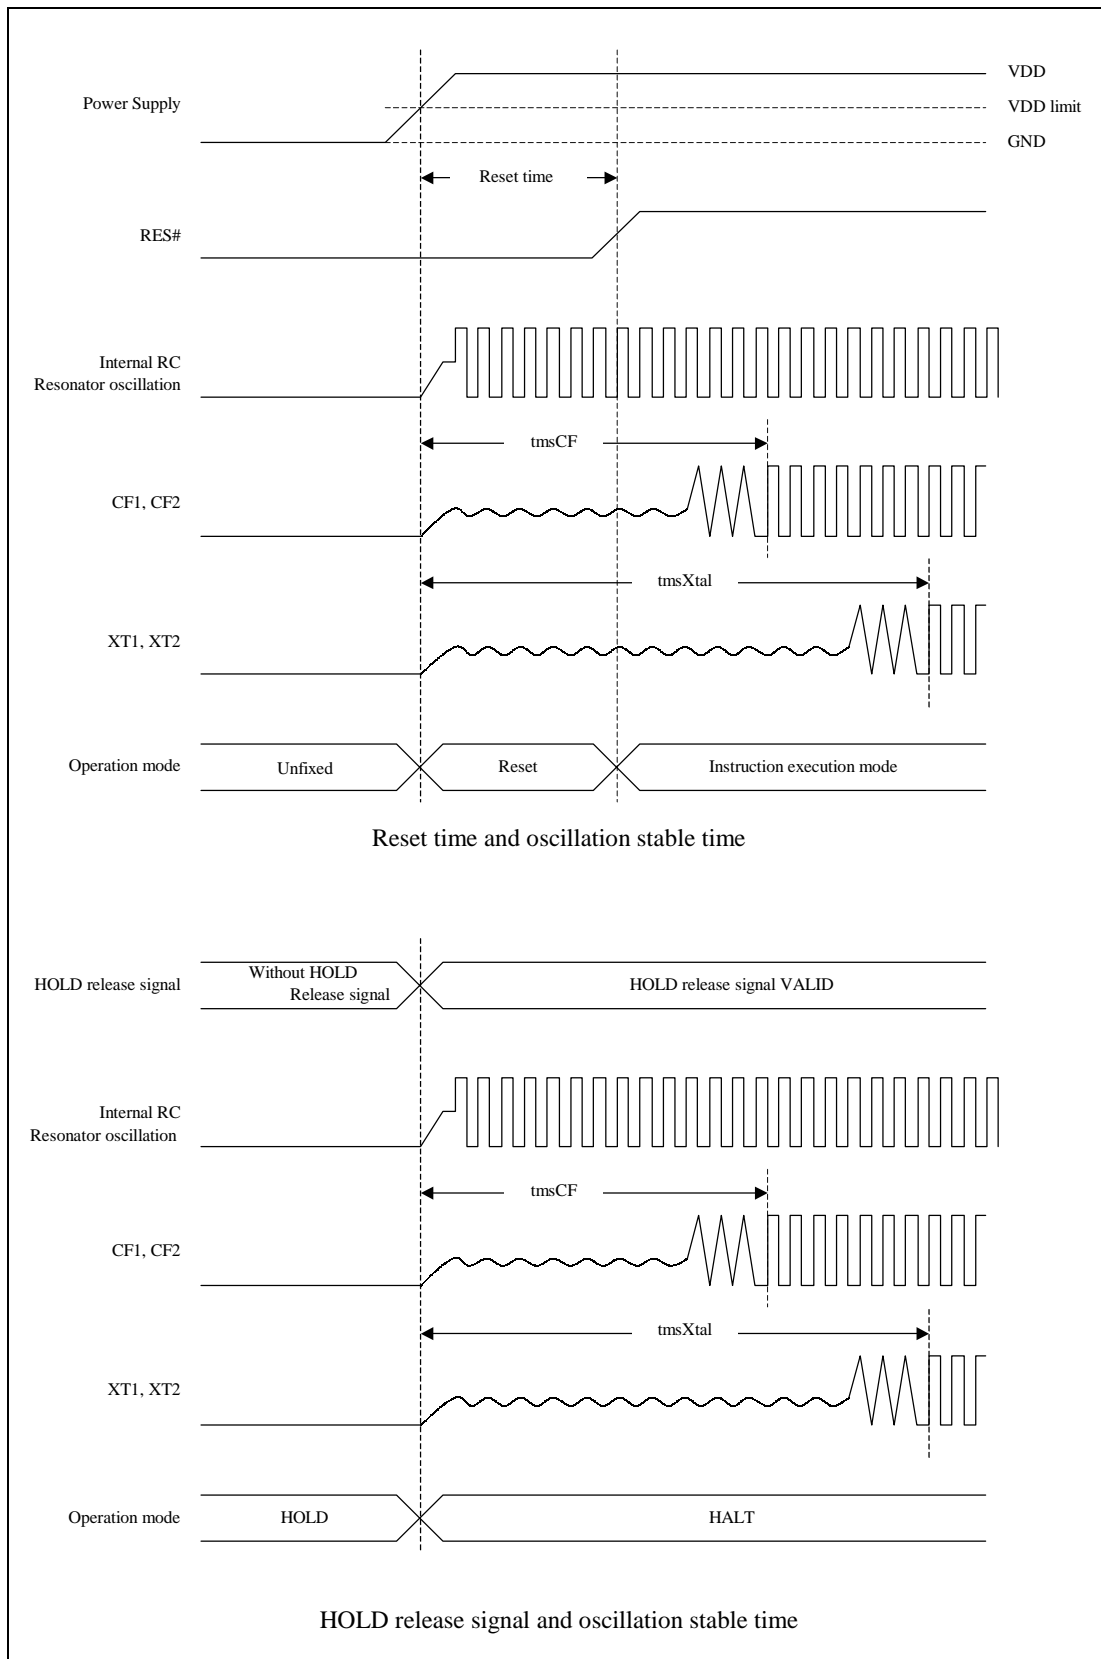

Figure 4 Oscillation stabilizing time
*The oscillation stabilizing time is a period until the oscillation becomes stable after VDD becomes higher than minimum operating voltage. (Refer to Figure4)
*The oscillation stabilizing time is a period until the oscillation becomes stable after executing the instruction which starts the sub-clock oscillation or after releasing the HOLD mode. (Refer to Figure4)